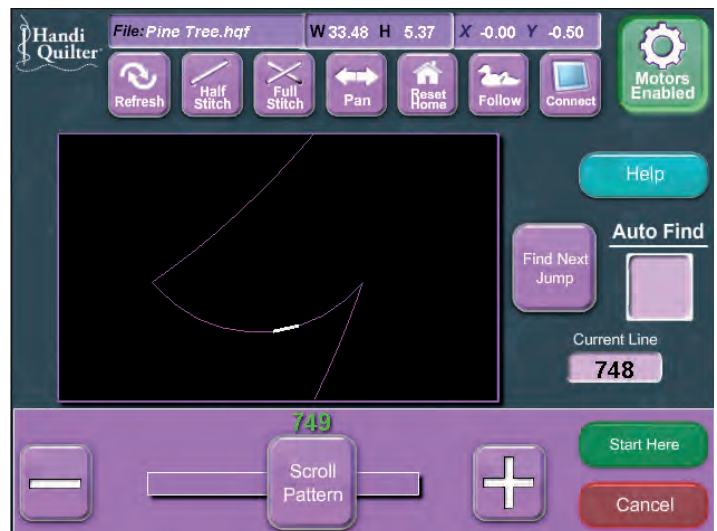

Figure 46
1. The “Scroll Pattern” button may be dragged back and forth until the user determines that the small white line segment is at the point in the pattern that correlates with the desired new starting point. It may be necessary to zoom in to see the small white line segment. The “+” and “-” buttons may be used to fine-tune the position of the white line segment. The user may also press and hold the “+” or “-” button to scroll through the pattern (Figure 46).